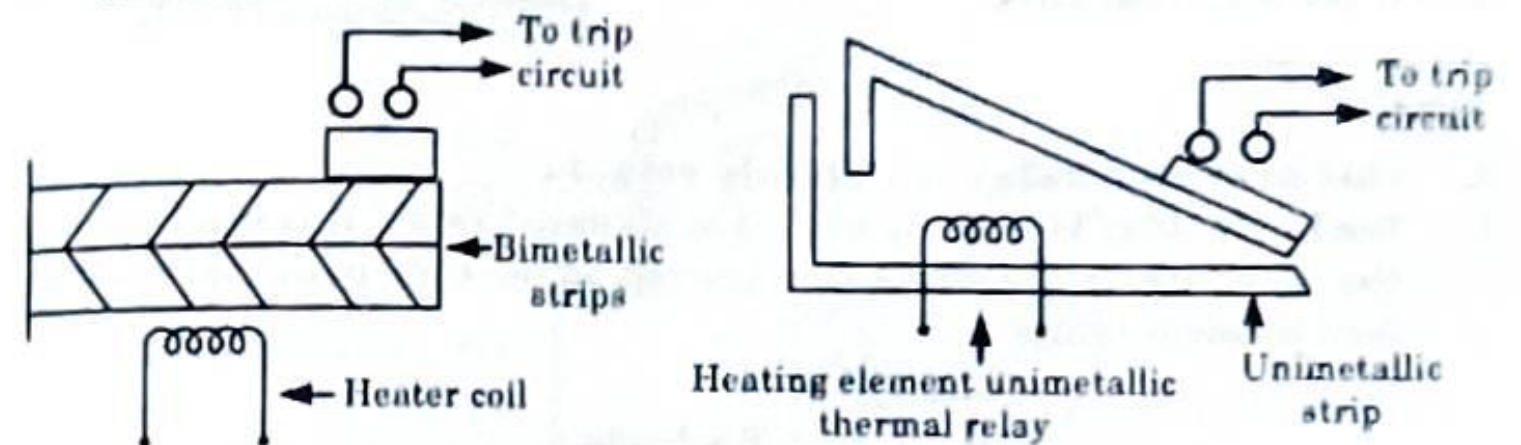

Fig. 2.6.1.
5. Unimetallic strips are also used as thermal elements in a hair pin like shape as shown in Fig. 2.6.1. When the strip gets heated, it expands and closes the contacts.